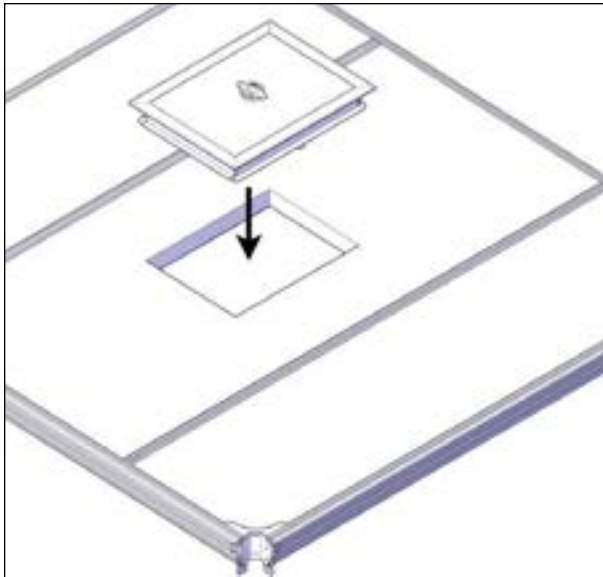

FIGURE 47: ESCAPE HATCH INSTALLATION
14. Turn the escape hatch handle to retract the arms and install it into the escape hatch opening of the center panel see Figure 47.